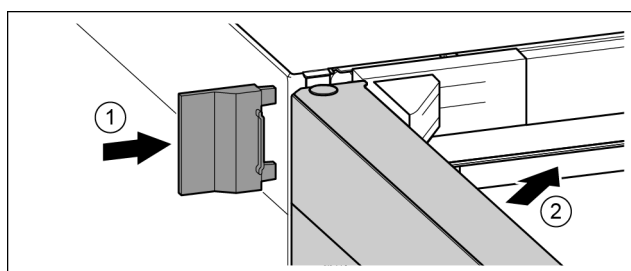

Fig. 26
- Slide on the external cover. Fig. 26 (1)
- Close the upper door. Fig. 26 (2)